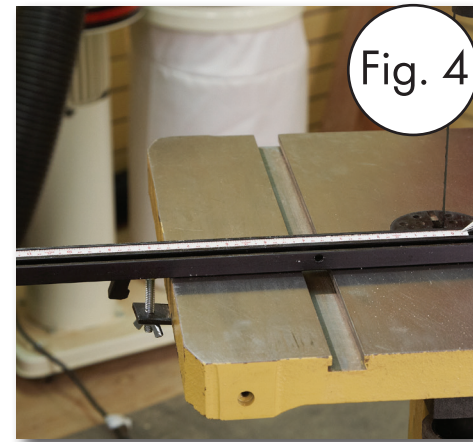

Fig. 4
3. Temporarily make sure the long extrusion is approximately one inch behind the bandsaw blade and perpendicular to the miter slot (Fig. 4). You will make a final adjustment later in Step 6.